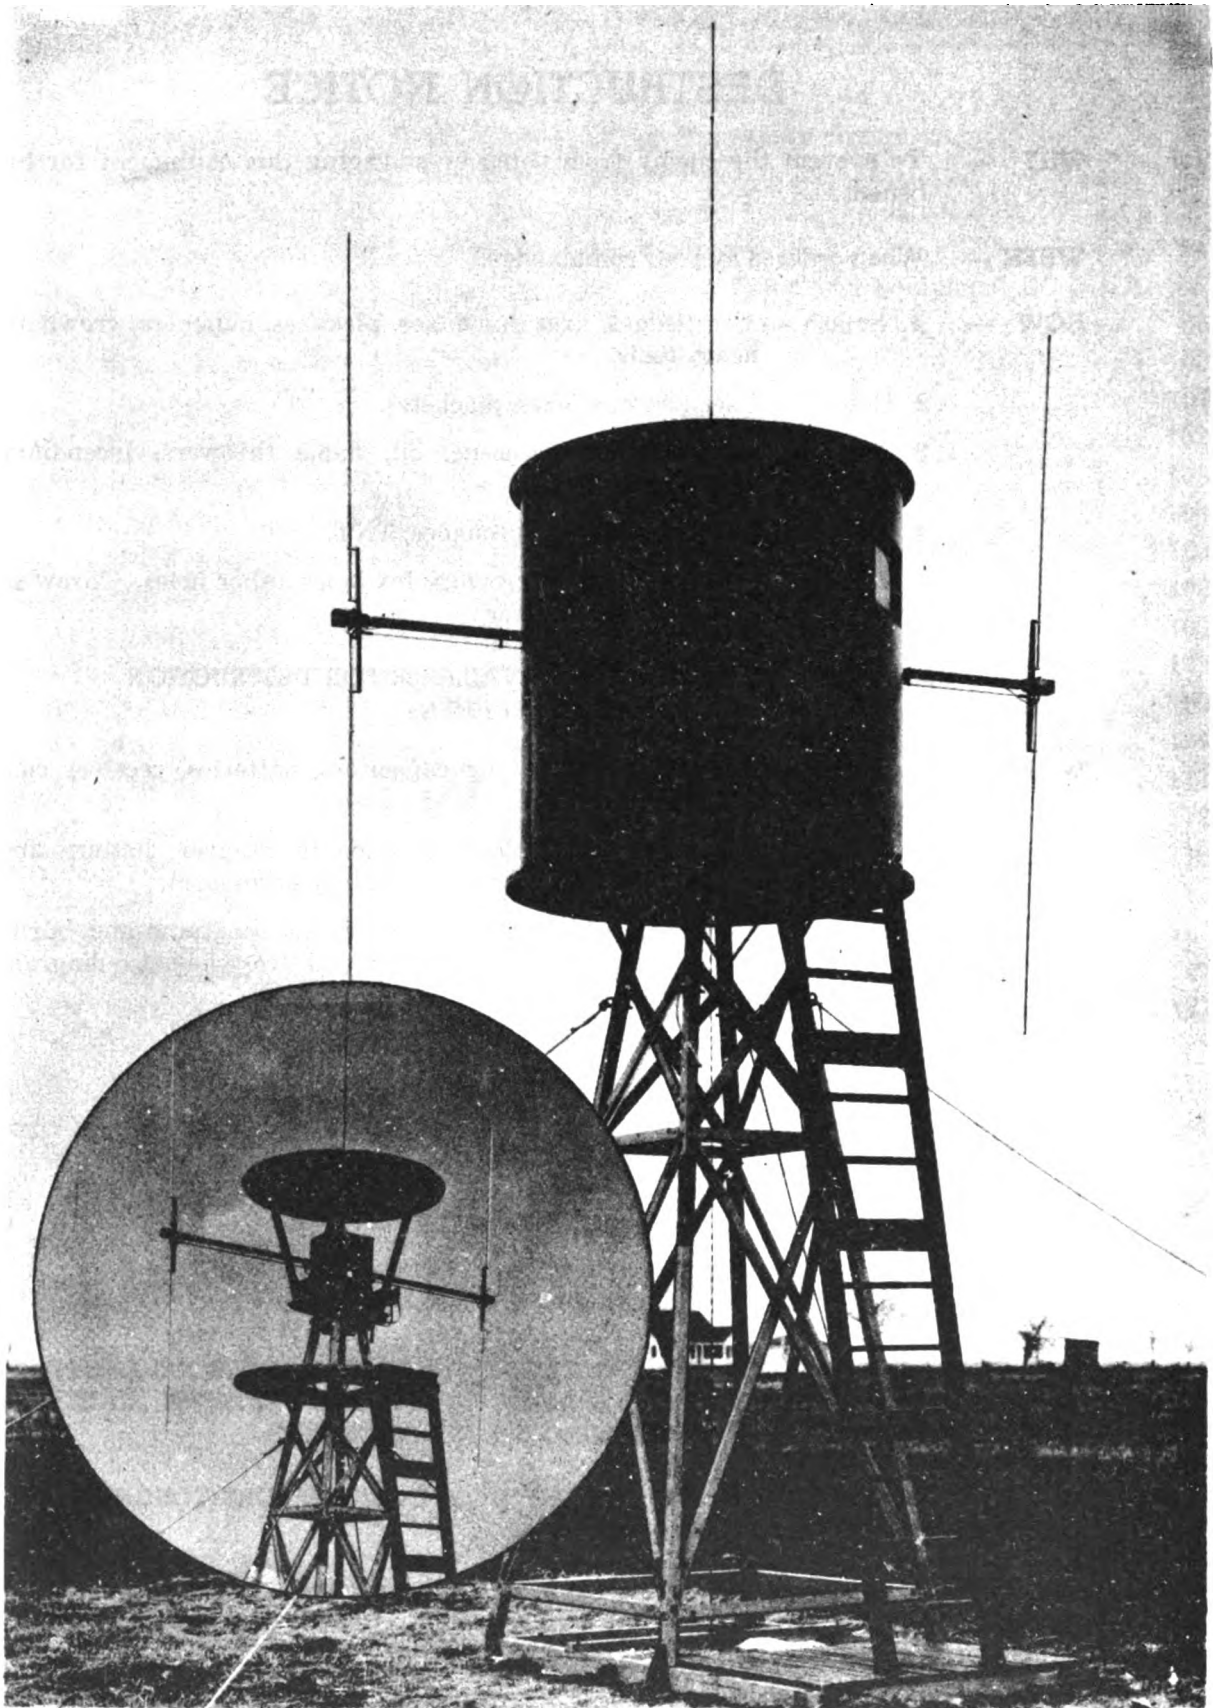

Figure 1. Radio Set SCR-551(), typical installation with and without shelter. TL-11619-A
a. Radio Set SCR-551-()¹ is a semi-portable, ground, radio direction finder (RDF) station (fig. 1). The equipment has a frequency range of 2 to 20 megacycles, and provides for the reception of amplitude-modulated (a-m) or continuous-wave (c-w) signals. A rotatable Adcock antenna is used and signal nulls (a condition of minimum or no signal which exists at that position of the Adcock when its plane is at right angles to the direction of arrival of the radio wave) are indicated both visually and aurally. The visual indicator is an oscilloscope, and a speaker or headsets are used for aural operation. A seat is provided for the operator from which he can rotate the radio equipment and the Adcock by moving his body. After the RDF has been oriented to some reference line, using the compass and telescopic sight, the direction of the incoming signal with respect to the reference line is indicated in degrees on the azimuth scale.